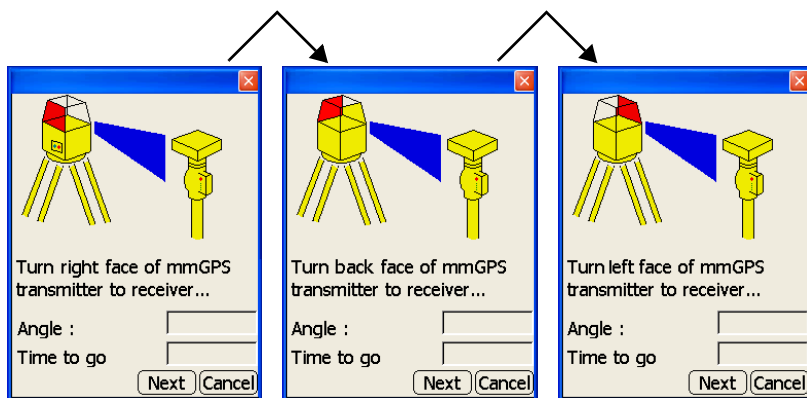

Figure 4-30. Transmitter Adjustment Process
- Follow the on-screen instructions, pressing **Next** to measure (Figure 4-30). If indicated, check the setup listed on-screen.